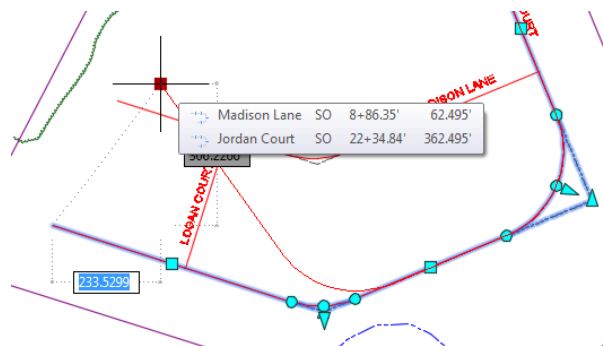

FIGURE 5.8 Moving the start point or endpoint grip
6. Press Esc, and click the square grip at the end of the Jordan Court alignment. Move your cursor to a different location without clicking. This type of grip is located at either the beginning or the end of the alignment. As it's moved, the geometry adjacent to it responds. In the case of this alignment, the curve just before the endpoint changes the locations of its beginning and ending points to remain tangent at both ends (see Figure 5.8).